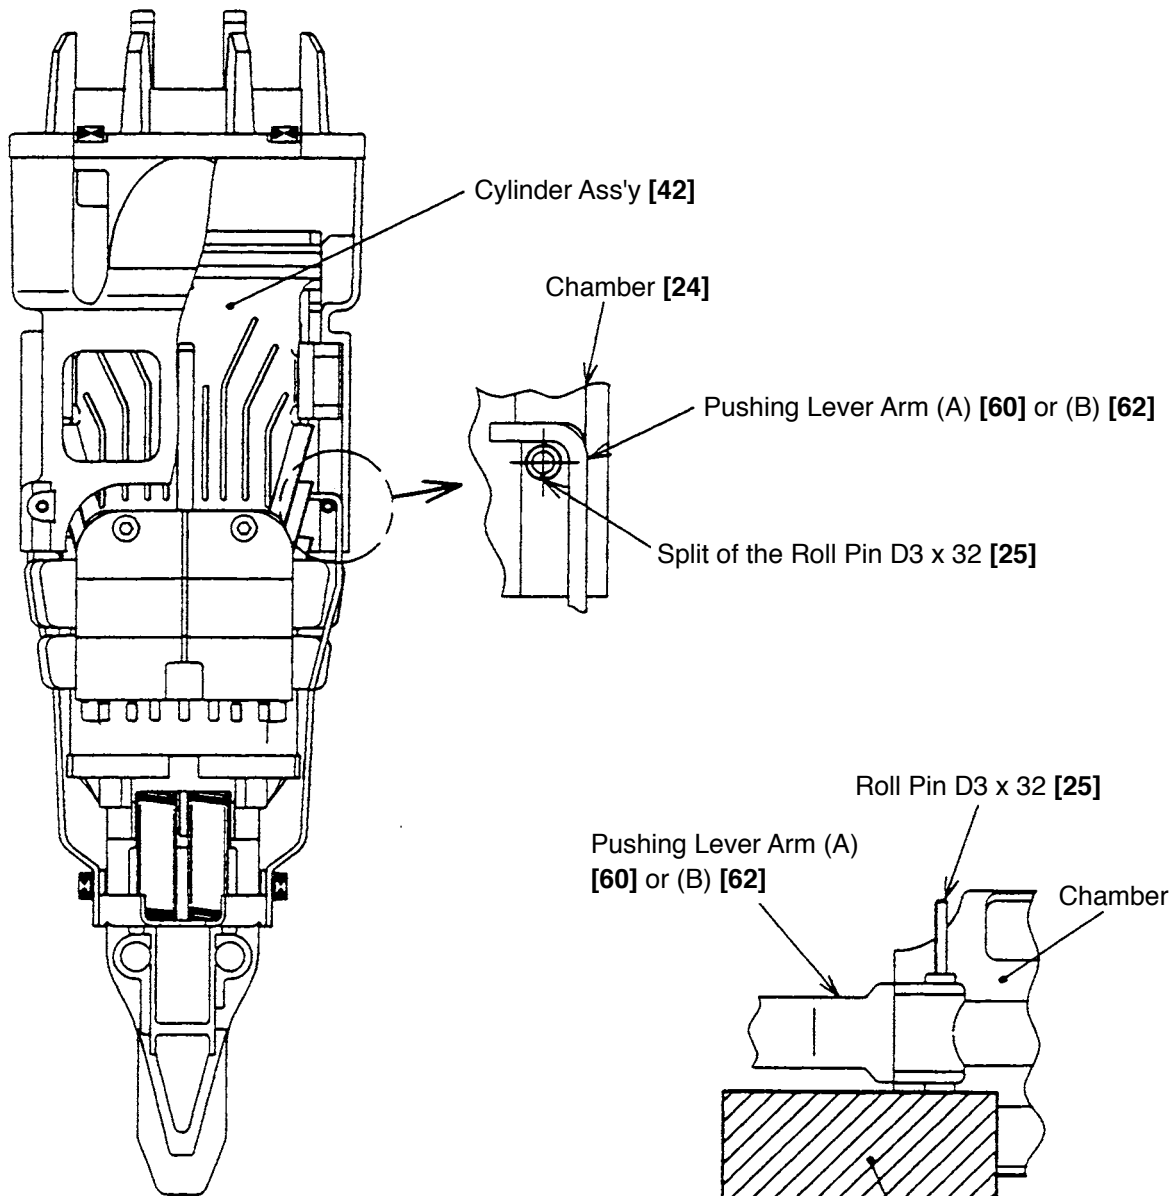
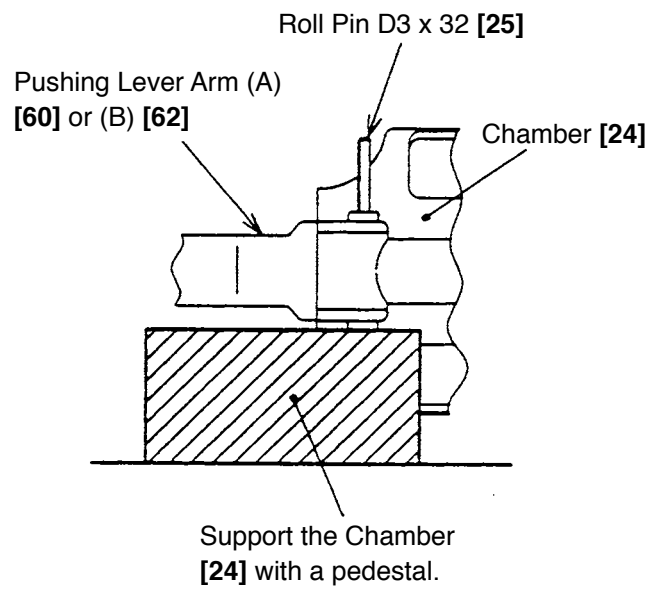

Fig. 43
Fig. 44
- Mount the Chamber Stop Rubber [41] and the chamber ass'y to the Cylinder Ass'y [42]. Align the roll pin hole of the Chamber [24] with the bent portion of Pushing Lever Arm (A) [60] or (B) [62] and drive the two Roll Pins D3 x 32 [25] with a roll pin puller (Fig. 43). Use a pedestal when driving the Roll Pins D3 x 32 [25] (Fig. 44). Do not support driving the Roll Pins D3 x 32 [25] on the buffer cover.